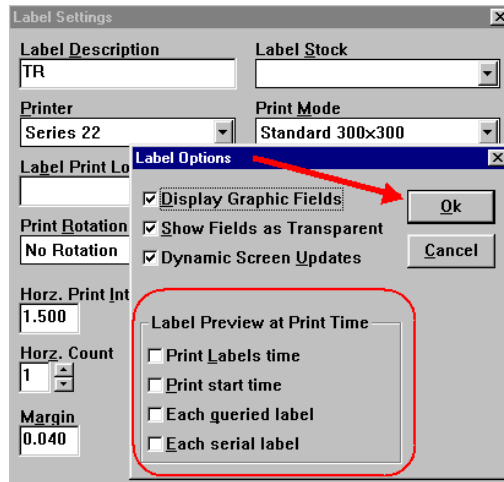

Figure 1-7
1.13. Uncheck any choices selected in *Label Preview at Print Time*. (Figure 1-7)
1.14. Click [OK]. (Figure 1-7)